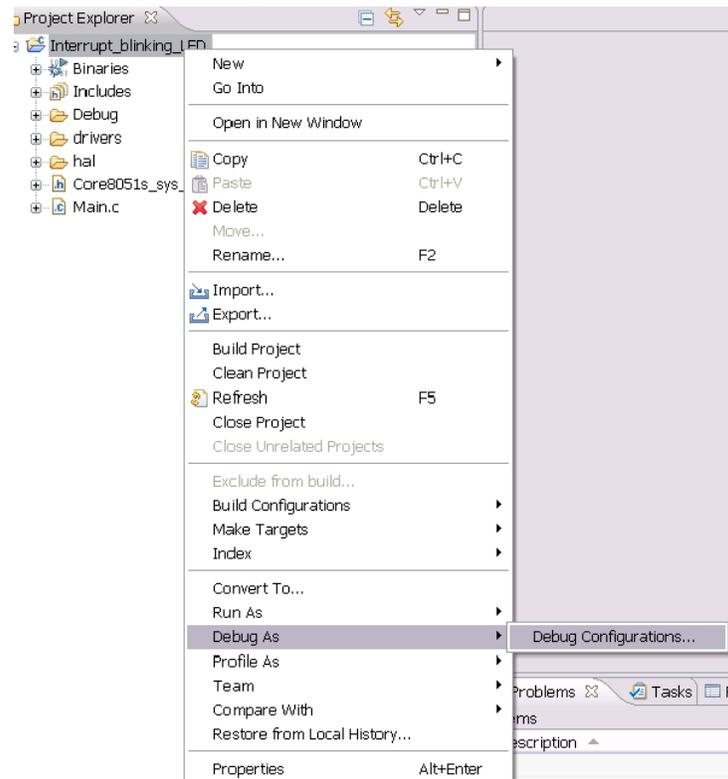

Figure 47 Selecting Debug Configurations
- Right-click **Interrupt_blinking_LED** and Launch a debug session, as shown in Figure 47.